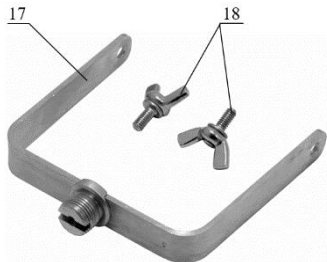

Figure 1.4 – Holder and screws for mounting to the telescopic rod and radiometer
To perform measurements in hard-to-reach areas, a telescopic rod (10) (Figure 1.1) is used, which is fastened to the device using a holder (17) and two screws (18) (Figure 1.4).